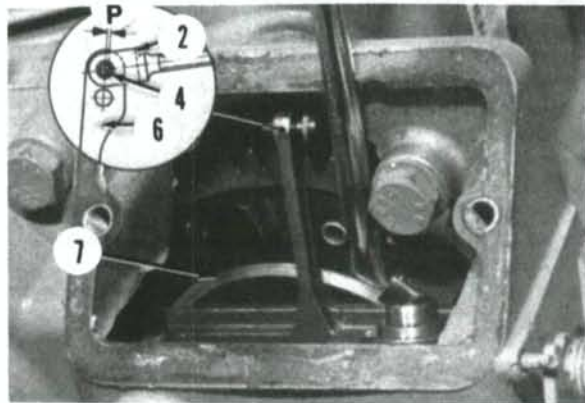

Fig. D1-9—When reconnecting governor linkage, adjust yoke (2) to provide 0.2-0.4 mm (0.008-0.016 inch) end play (P) at governor lever pin (4).
To reinstall injection pump, proceed as follows: If original pump shim pack is not available or if a new pump is being installed, place mounting gasket on crankcase and measure distance from surface of gasket to base circle of pump cam. Compare measurement with dimension scribed on pump body and assemble shim pack to obtain the required dimension. The distance with gasket and shims in place cannot be smaller than 82.6 mm (3.252 inches). Install pump and tighten nuts to 23 N·m (17 ft.-lbs.). Turn in fork (2—Fig. D1-9) and connect governor arm (6). Press governor plate (7) forward and check governor lever play (P) at pin (4). Adjust fork in or out to provide 0.2-0.4 mm (0.008-0.016 inch) free play at pin. Reinstall springs and governor cover. Bleed air from fuel system and check injection pump static timing. Check engine speed settings and adjust if necessary.